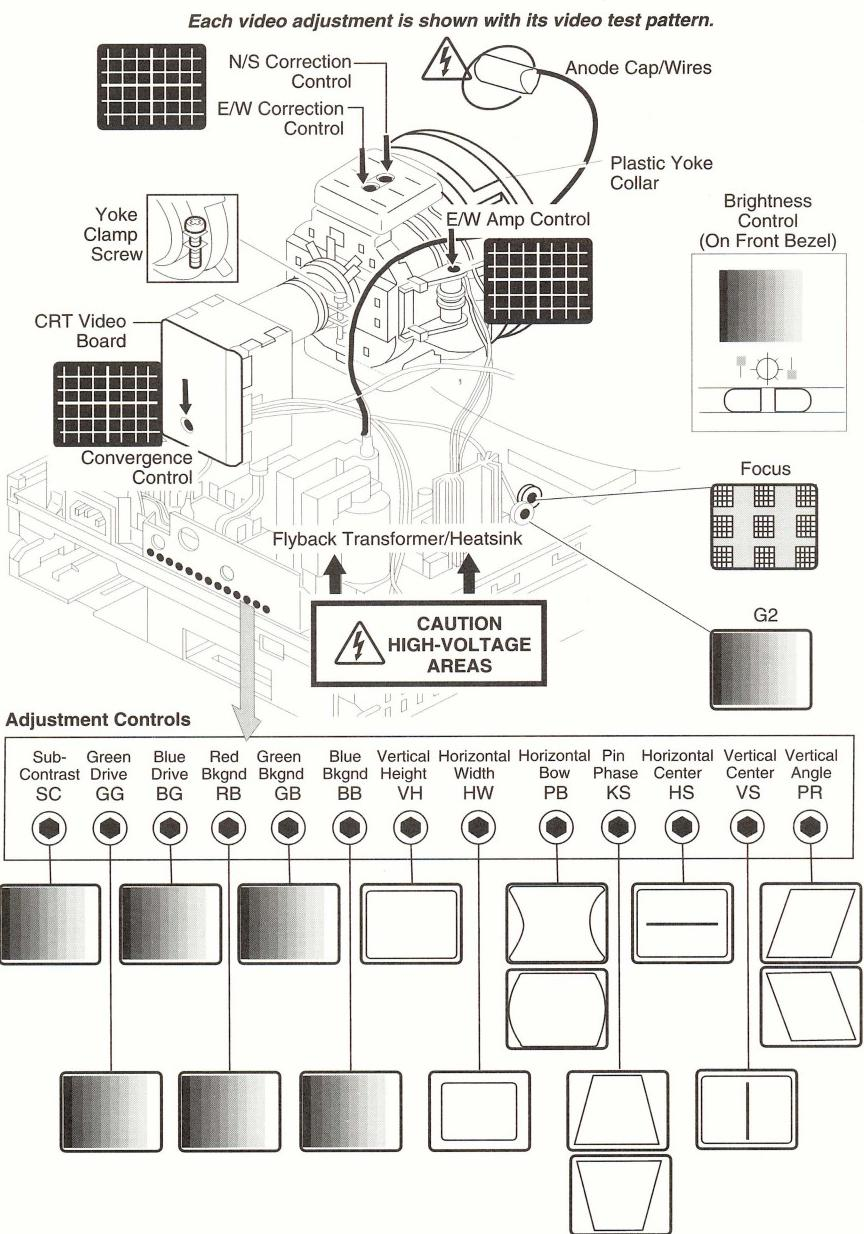

Figure 3 Color Classic Video Adjustments
Using a hex-head plastic adjustment tool, adjust the horizontal or vertical center controls (see Figure 3) until the raster is centered in the display area.
1. Using a hex-head plastic adjustment tool, adjust the vertical height control (see Figure 3) until the raster is 4.9 inches (\pm 1/16 inch) or 124.5 mm (\pm 1.5 mm). Verify this height.
2. Using a hex-head plastic adjustment tool, adjust the horizontal width control (see Figure 3) until the raster is 6.7 inches (\pm 1/16 inch) or 168.5 mm (\pm 1.5 mm). Verify the width.
1. Using MacTest Pro, display the Focus test pattern (see Figure 3).
4. Using the adjustment tool, set the red, green, and blue background controls to the full counterclockwise positions (Figure 3).
6. Set the sub-contrast control to its full clockwise position (Figure 3).
7. Using a hex-head plastic adjustment tool, adjust G2 until the first bar in the test pattern is completely black and the second bar is barely discernible (Figure 3).
3. Using a hex-head plastic adjustment tool, adjust the convergence control (see Figure 3) on the CRT video board for best overall convergence.
4. Using a hex-head plastic adjustment tool, adjust the N/S correction control (Figure 3) for best convergence of horizontal lines at the top and bottom of the screen.
5. Adjust the E/W correction control (Figure 3) for best convergence of vertical lines at the left and right sides of the screen.
2. To determine which control to adjust, compare the display with the distortions shown in Figure 3.
- Pin phase (KS)
- Vertical angle (PR)
- Horizontal bow (PB)
2. Using an insulated cross-tip screwdriver, loosen the yoke clamp screw (Figure 3) two or three turns.